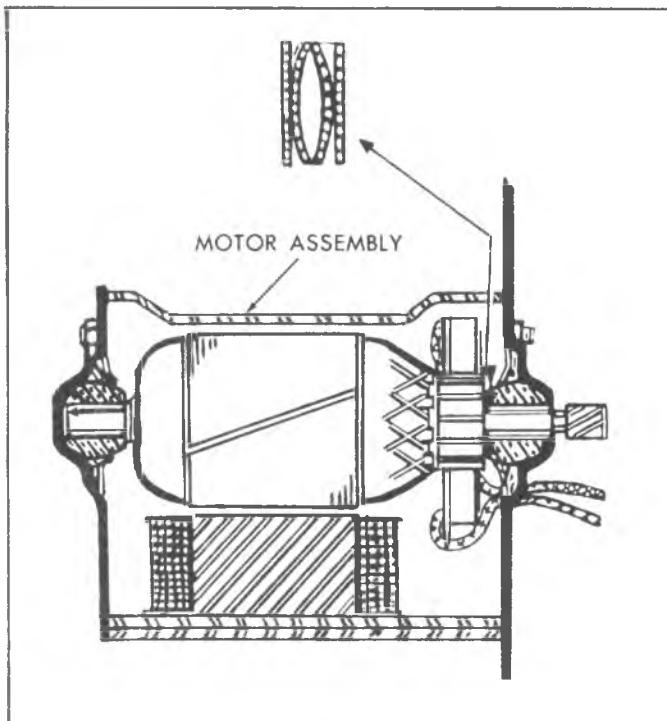

Fig. 41--End Play Wave Washer Installation
**NOTE:** Armature end play is controlled by end play washers. See Figure 41 for proper assembly of end play washers. Lubricate armature shaft bushings with light machine oil.